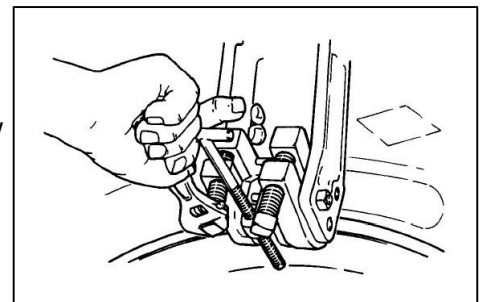

Figure 2
2. Securely tighten adjusting screws at bottom of jaws. Set hand screw against lock ring and adjust until jaw assembly is in a right angle position to the plane of the flange. (See Figure 2.)